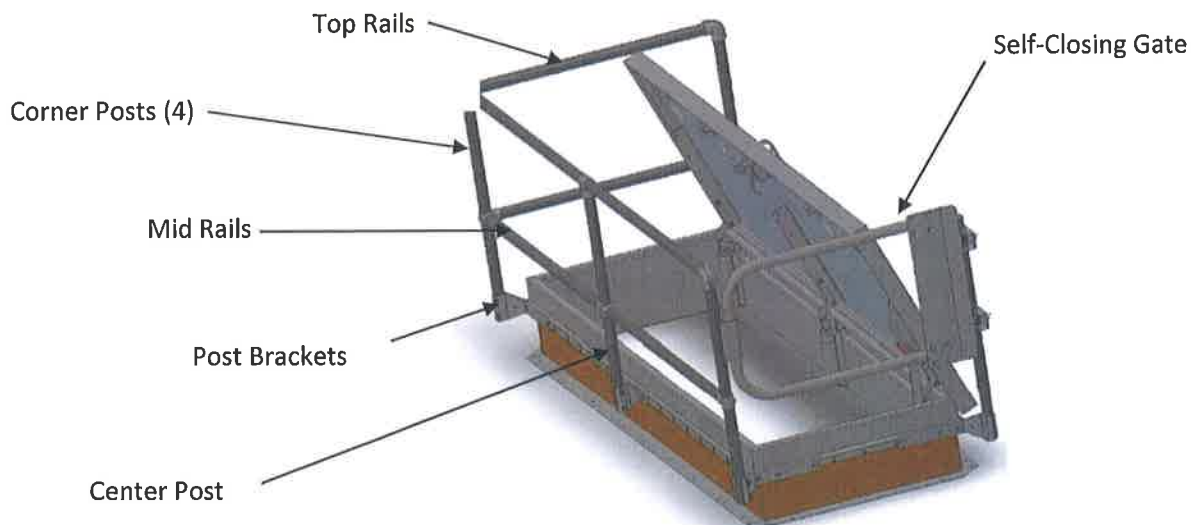
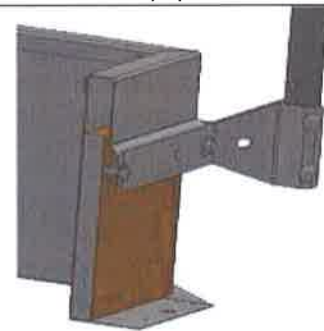

Figure 1
Figure 3
Reference *Figure 1* for installation of Post Brackets, Corner Posts, Center Posts, Top Rails, Middle Rails and Self Closing Gate.
- The railing brackets are designed for mounting on the counterflash of the roof hatch. See Figure 3. **Do not mount brackets through the roof hatch curb or through roofing material.**
- Mark the mounting holes on each corner and drill 1/2 inch diameter holes. Remove 3/8-16 nut and bolt (20, 30) from bracket halves (10).
- Fasten to the corner on counter flashing using 3/8-16 x 3/4 inch bolts (30), washers (40) and threaded nut plate (50), which is placed behind the counterflash for quick, easy installation.
- Align and hold the threaded nut plate (50) behind the counter flash.
- Screw the 3/8-16 x 3/4 inch bolts (30) and washers (40) through the bracket and into the threaded nut plate.
- Insert the 35 inch upright post (60) into the installed brackets and insert the 3/8-16 x 3 inch bolts (70). Tighten the bolts using the 3/8-16 nuts (20).
**Center Post:** (See Figure 1) Note the position of the door in open position. Center posts are included for roof hatch lengths > 8 feet.
**Railing Top and Middle Rails:** (See Figure 1) Note the position of the door in open position.